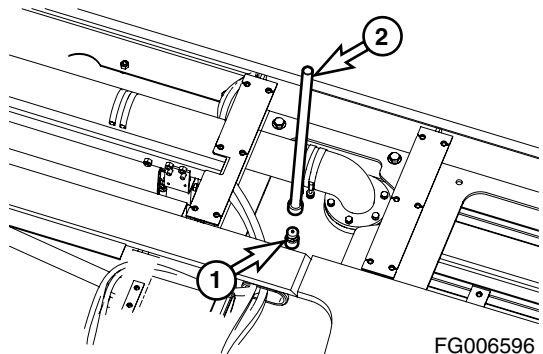

Figure 19
- B. Drain the excess oil from drain valve (Figure 19) at the bottom of tank into a suitable container, using a hose connected to the valve.